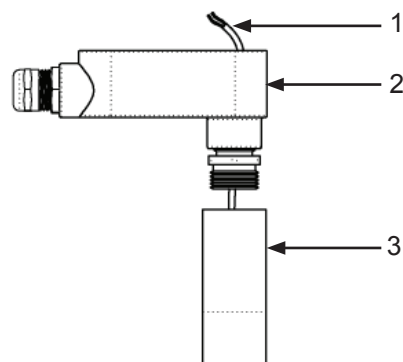

Figure 14 Junction Box Assembly
Step 1. Follow steps 1 through 5 from section 2.2. Remove the top-plate and gasket from junction box (1) and set aside. Pull the sensor cable (2) through the assembled junction box and out of the open top. Screw the junction box assembly onto the top of the ell (3). Do not twist the sensor wire. See Figure 14.